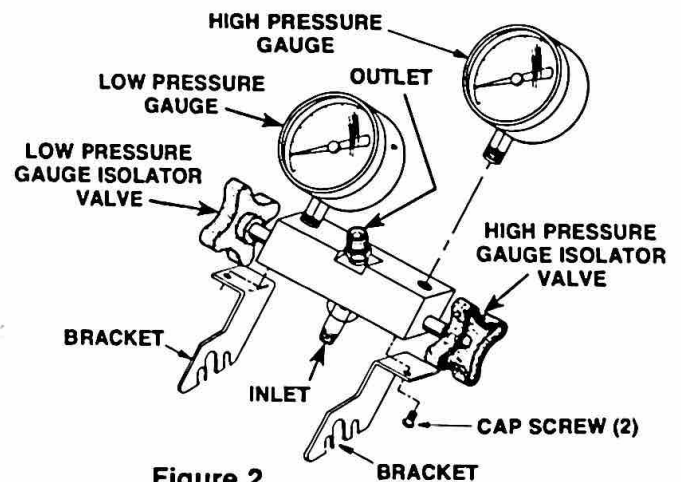

Figure 2
3. See Figure 2. Remove the two screws holding the brackets to the base of the adapter block. Remove the brackets.